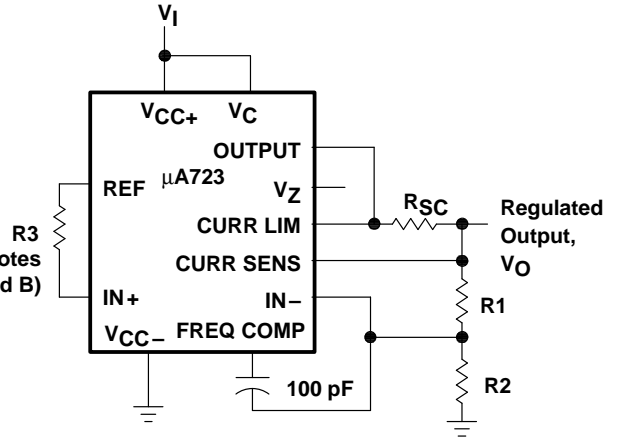
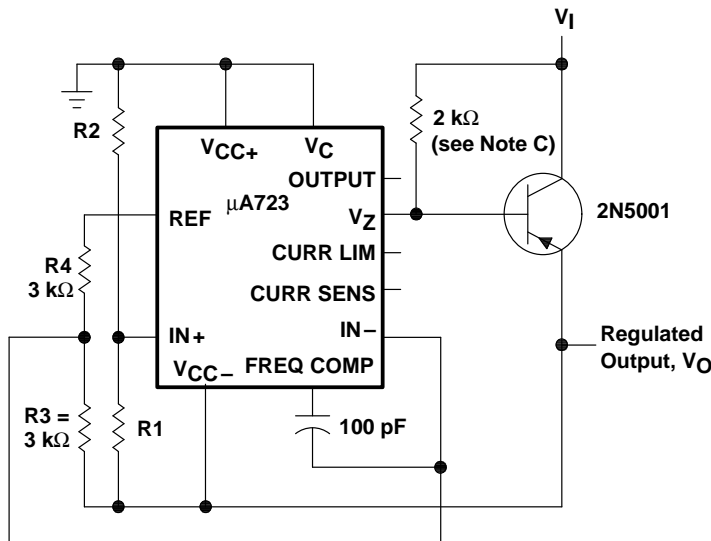
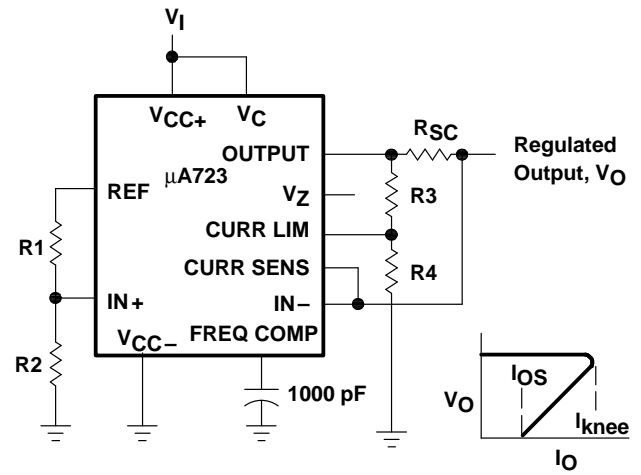

Figure 2. Basic High-Voltage Regulator
Figure 3. Negative-Voltage Regulator
Figure 6. Foldback Current Limiting
6. For Figures 3, 8, and 10, the device requires a minimum of 9 V between V_{CC+} and V_{CC-} when V_O is equal to or more positive than -9 V.
| <p>Outputs from 7 V to 37 V See Figures 2,4,(5,6,9, 11, 12) and Note 4</p> $V_O = V_{(ref)} \times \frac{R_1 + R_2}{R_2}$ | <p>Outputs from -6 V to -250 V See Figures 3, 8, 10 and Notes 4 and 6</p> $V_O = -\frac{V_{(ref)}}{2} \times \frac{R_1 + R_2}{R_1}$ <p>$R_3 = R_4$</p> | <p>Foldback Current Limiting See Figure 6</p> $I_{(knee)} \approx \frac{V_O R_3 + (R_3 + R_4) 0.65 \text{ V}}{R_{SC} R_4}$ $I_{OS} \approx \frac{0.65 \text{ V}}{R_{SC}} \times \frac{R_3 + R_4}{R_4}$ |